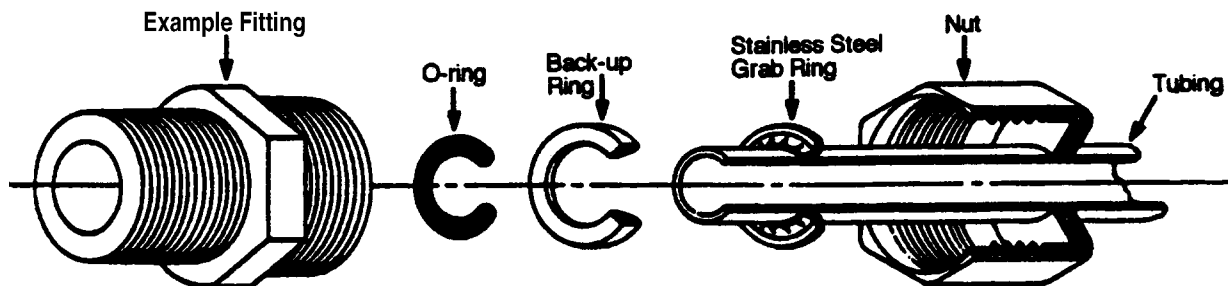

Figure 5-3. Typical Polypropylene Tubing Adapter Installation
1. Completely disassemble the fitting. Refer to Figure 5-3 to familiarize yourself with the names of the component parts.
3. Place the grab ring and backup ring in the hex nut in the order and orientation shown in Figure 5-3. Thread the nut onto the adapter. DO NOT use the o-ring at this time.